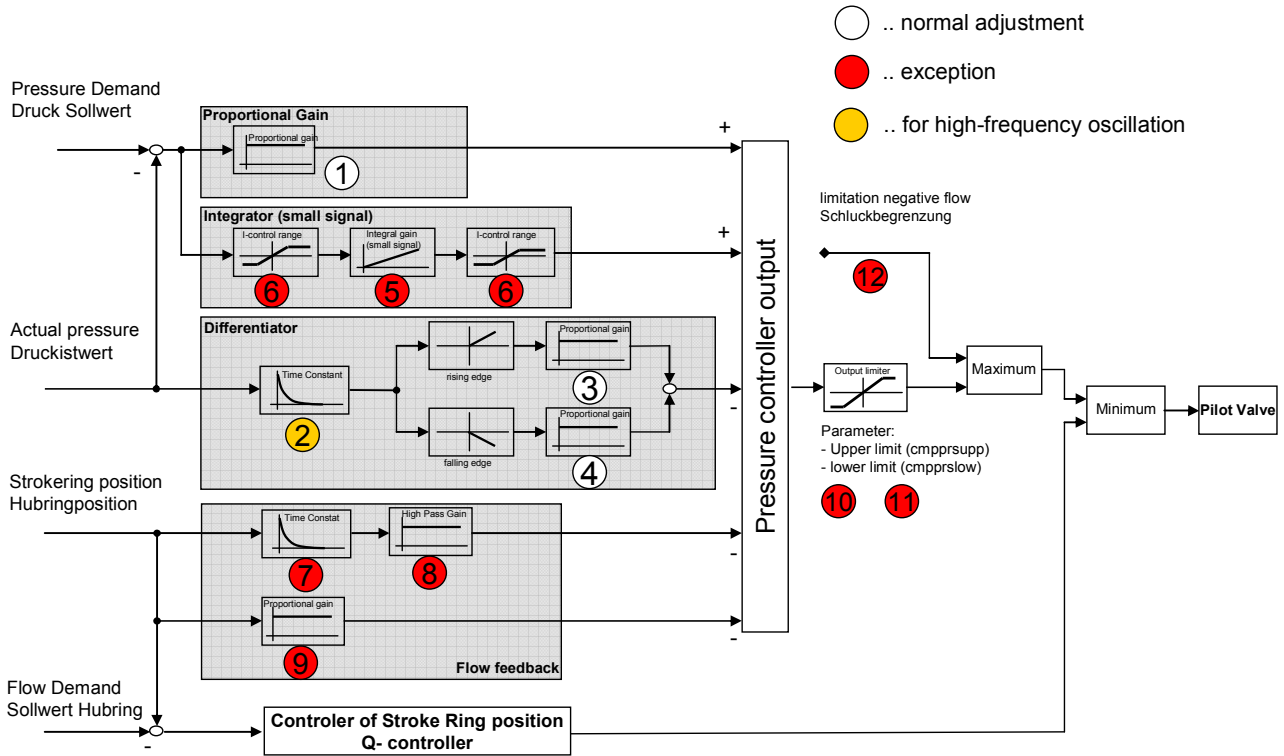

Figure 29: Block diagram, control of RKP-D
- Stroke Ring Position Feedback: The position of the stroke ring (flow rate) is proportional to pressure change in closed volume. That means that the rating of this state quantity (⑨ ⇒ Fig. 29, 30) in pressure control is similar to the D-rate. But it results in to a stationary control deviation. The stationary control deviation will be avoiding if the Stroke Ring Signal uses a high-pass.
⑦ ⇒ Fig. 29, 30 is the time constant T in [s] of the high-pass.